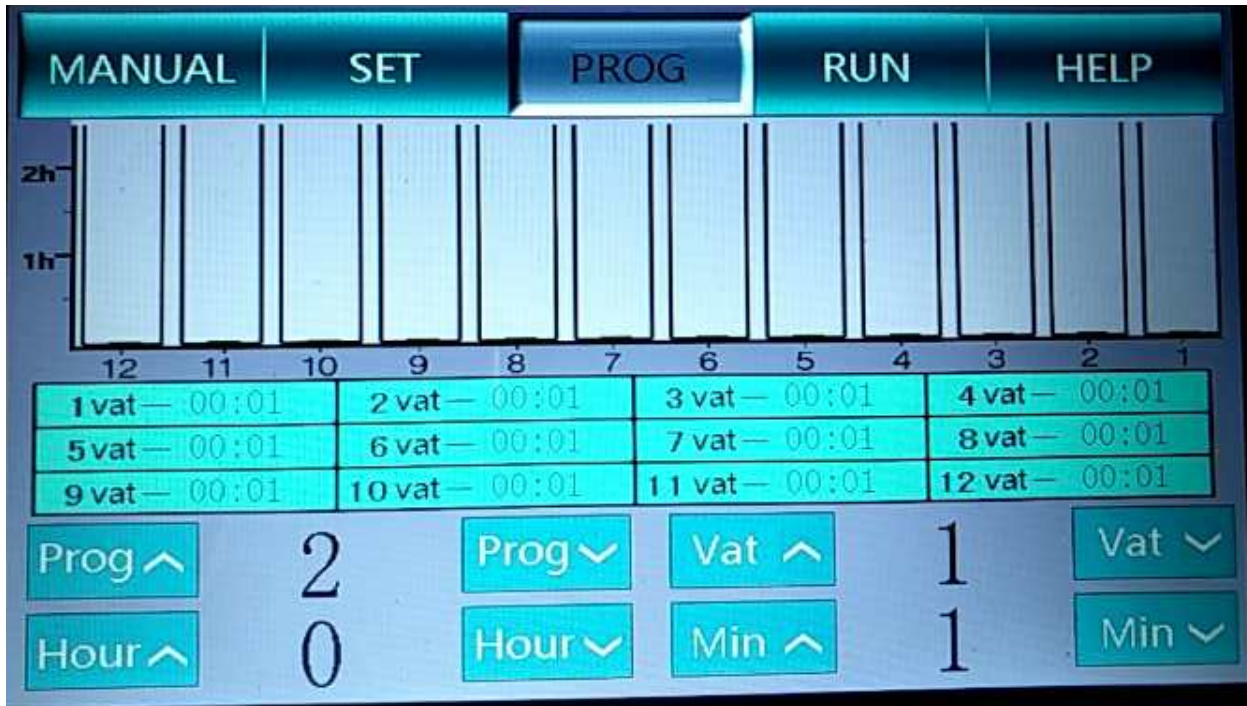

Fig. 3
5. The system time shall be regulated separately according to the corresponding Year, Month, Day, Hour and Minute; (see Fig. 3)
The table in Fig. 3 shows the bath position and time of the selected program.